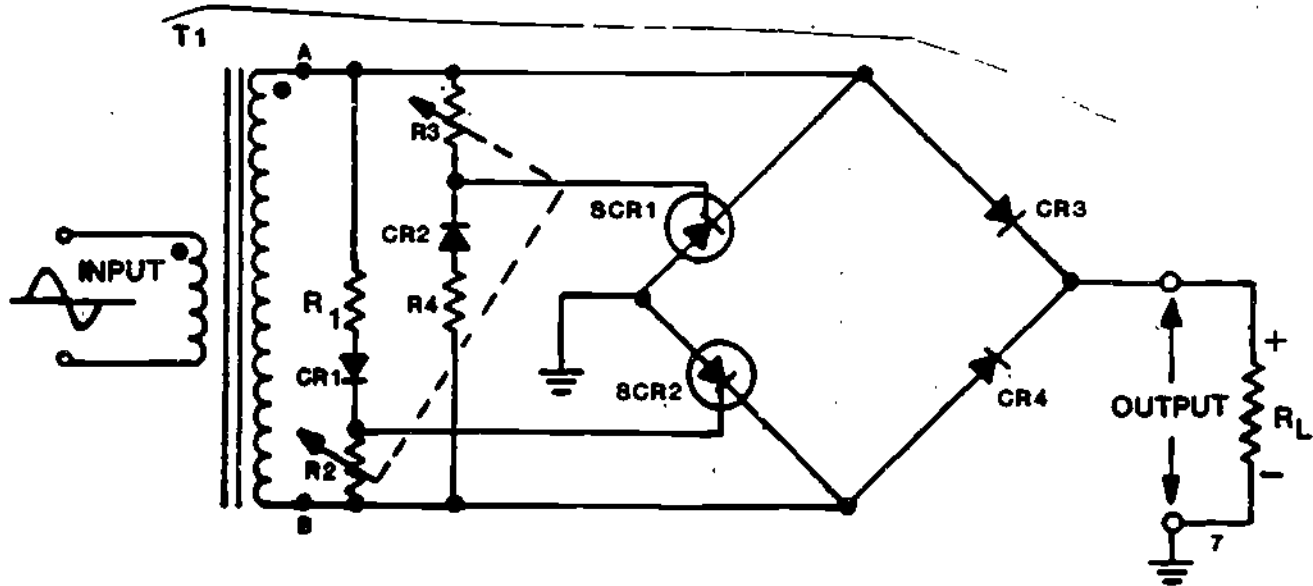

Figure 20
26. The schematic shown in Figure 20 is also for an SCR bridge power supply. The only difference is R2 and R3 have been replaced with variable resistors. In this case the resistors are mechanically coupled or ganged.